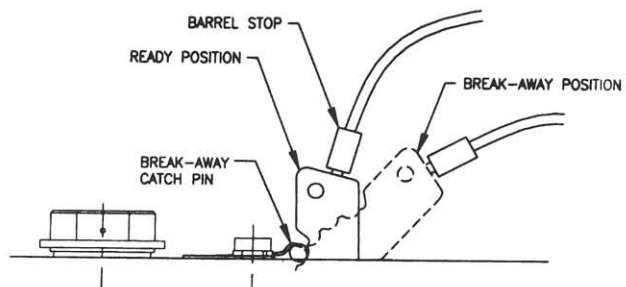

Figure P12: Break-away Cable
- Make sure the break-away lever is fully rotated to the rear with the break-away catch pin securely located under the break-away spring. The break-away catch pin will be in the lever's uppermost notch. See Figure P12.